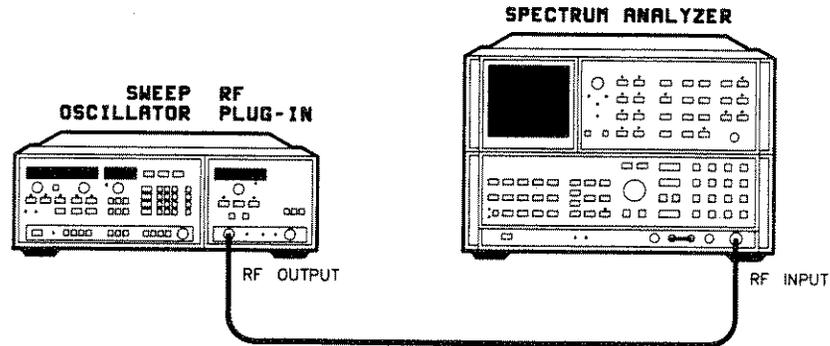

Figure 4-10. Square-Wave On/Off Ratio and Symmetry Test Setup
1. Connect the equipment as shown in figure 4-10. Turn all instruments on and allow 1 hour warm up.